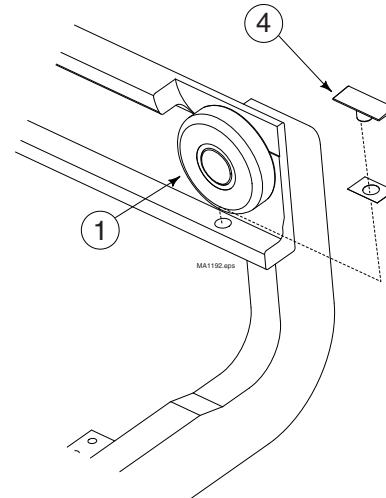

Figure 51. Upright Inspection .
1. Inspect the load rollers for excessive wear or damage. Rollers with visible flat spots or cracks should be replaced. See Figure 51.